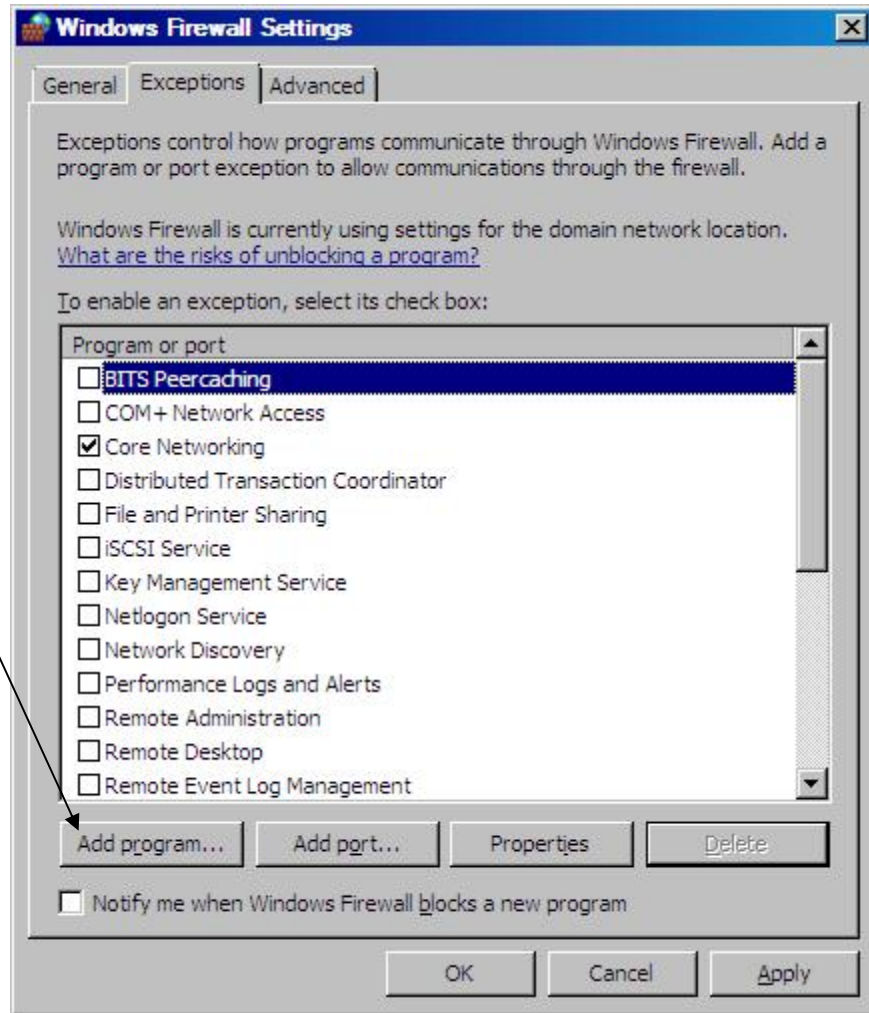

Figure 2-39. Windows Firewall Exception tab
3. On the **Exceptions** tab of the Windows Firewall dialog box, click **Add Program** (see Figure 2-39.)